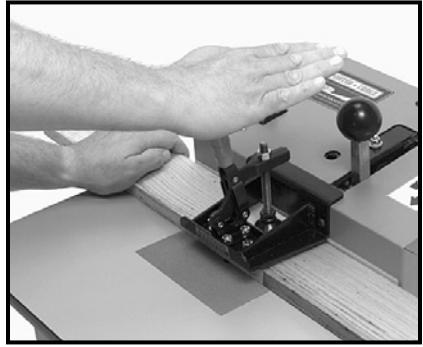

Fig. 20
3. Close the work clamp and pull on the workpiece to assure that it is clamped securely (Fig. 20).